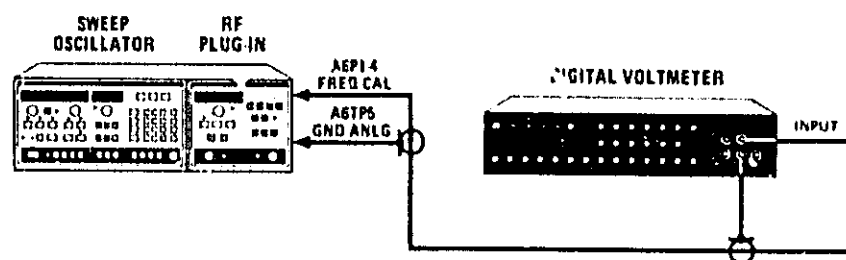

Figure 5-5. YO Driver Board Adjustment Test Setup
1. Connect the equipment as shown in Figure 5-5 with the DVM connected to A6PI pin 4 (FREQ CAL) and common connected to A6TP5 (GND ANLG).
4. Float ground on DVM and connect floating ground to A6TP13 (+20 V FREQ. REF.). Connect measurement lead of DVM to A6TP16. (See Figure 5-5 and 5-6.)